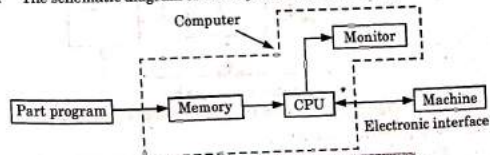

Fig. 2.22.1. General configuration of CNC system.
- The schematic diagram of CNC system is shown in Fig. 2.22.1.